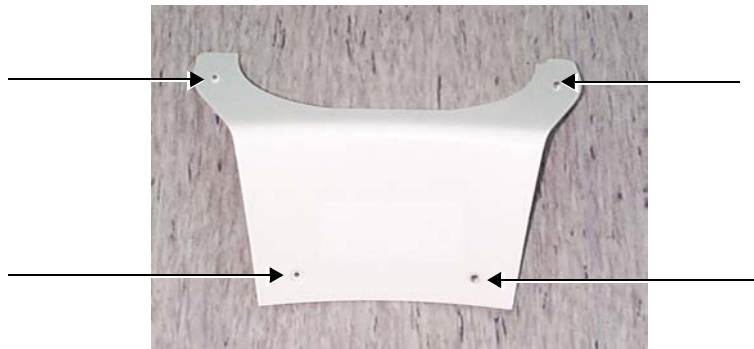

Figure 8-18 Location of Screws on Lower Rear Cover
- 2) Remove the 4 screws that fasten the rear cover in position (two at the rear, and two below) - see Figure 8-18 below: